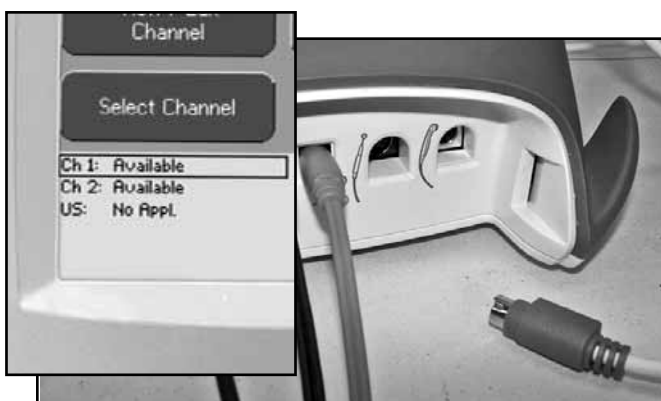

FIGURE 5.18
2. Look at the "Ultrasound" channel icon at the lower Left Hand corner of screen. It should read "No Appl.". See Figure 5.18.